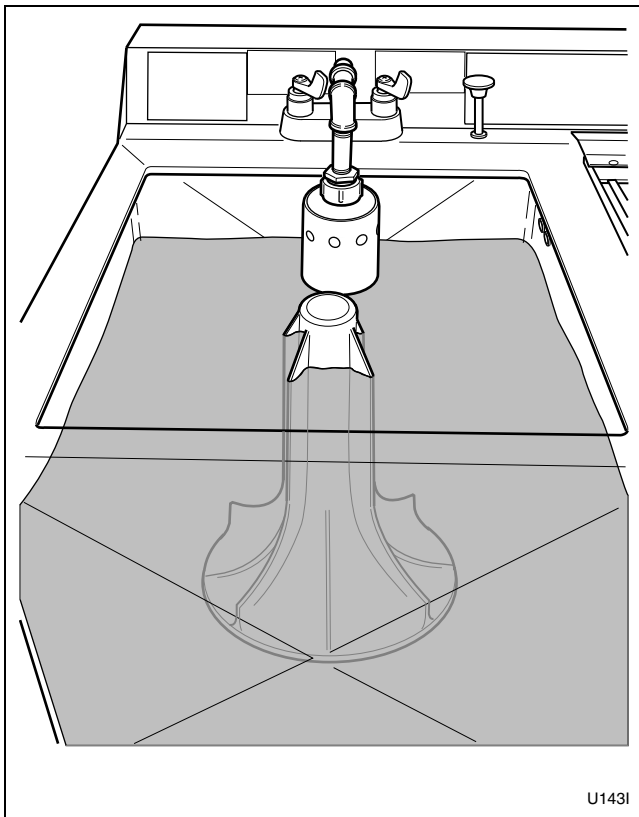

Figure 8
3. Turn on hot and cold water faucets to desired temperature and fill compartment to top of agitator fins. Refer to *Figure 8*.